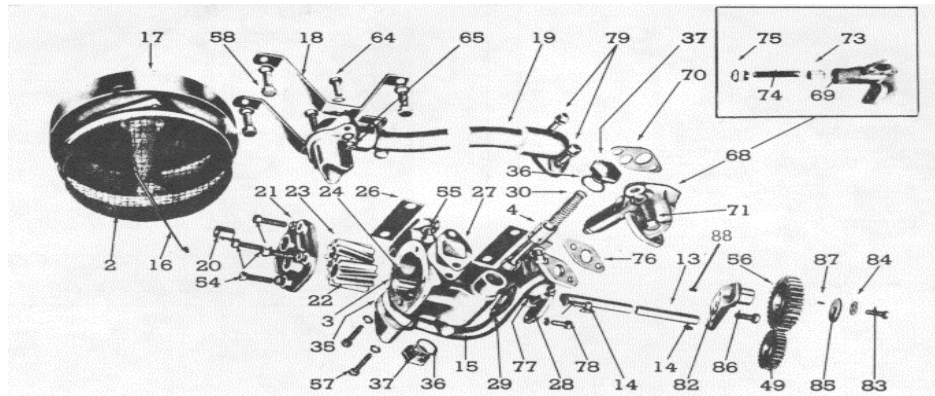
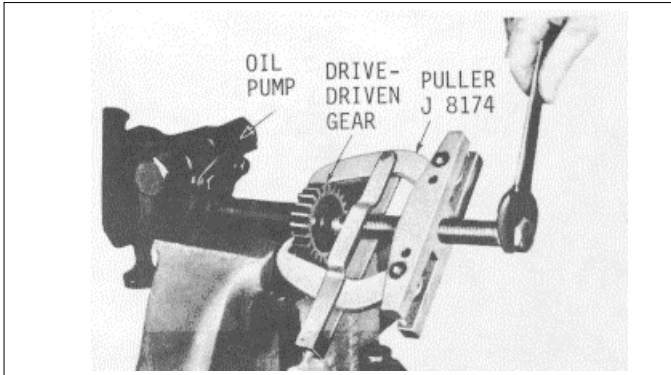

Fig. 3
Fig. 4
- (1) Remove the oil pump inlet pipe (19) with the screen cover and mounting brackets.
- (2) Remove the oil pressure regulator and the oil pump outlet pipe (15) as an assembly from the pump body (3).
- (3) Remove the valve plugs (37) and copper gaskets (36) from each side of the pump body, and jar the relief valve parts from the body (Fig. 3).
- (4) Remove the pump driven gear (22) from the driven gear shaft (24).
- (5) Straighten the lip of the lockwasher (84) and unscrew the bolt (83) thus freeing the idler gear (56).
- (6) Clamp the pump body, drive shaft and gear assembly in a bench vise. Pull the drive- driven gear from the outer end of the pump drive shaft as shown in Fig. 4.
- (7) Remove the Woodruff key (14) from the drive shaft and withdraw the shaft and driven gear (22) from the pump body.
- (8) Unscrew the bolt (86) and remove the idler gear support (82) from the pump body.
- (9) If the drive gear (23) is to be replaced, position the gear and shaft assembly on bed of arbor press with long end of shaft extending down through slot in bed plate and with
Refer to Fig. 3, and assemble the oil pump as follows:
- (2) Press the dowel (88) into the pump body, if removed.
- (3) Place the idler gear support (82) in position against the forward end of the pump body (fig. 3) and secure the support to the body with bolt (86).
- (4) Install the drive gear and shaft assembly in the pump body and slide the driven gear (22) onto the shaft (24).
- (5) Insert two Woodruff keys in the keyway and slide the drive gear (gear with keyway) (23) against the spacer.
- (6) Slide the driven gear (22) on the driven shaft against the spacer.
- (7) Support the drive gear end of the drive shaft (13) on the bed of an arbor press and insert